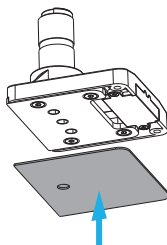

Figure 10
4. Carefully apply the **Base Pad** to the bottom of the **Base Mount** to complete the **Grommet Base Assembly**. (Figure 10)